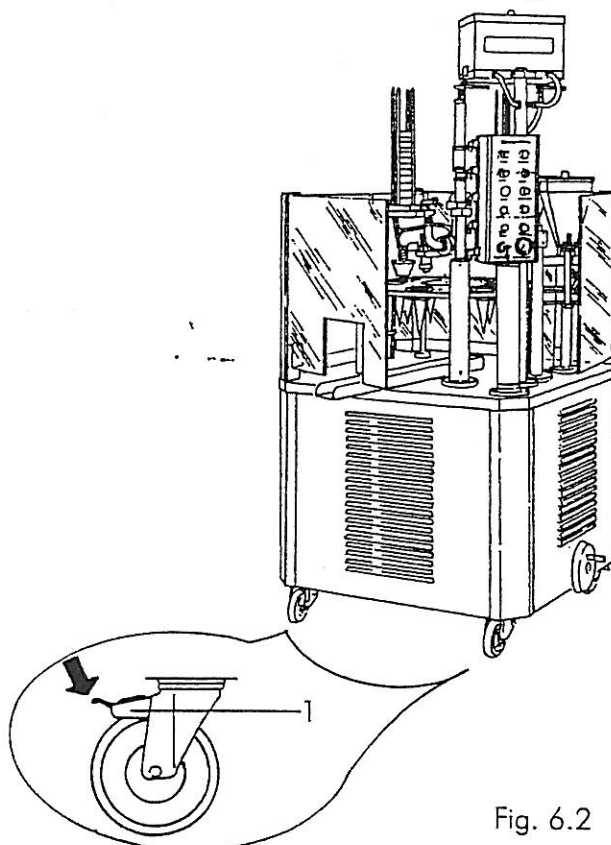

Fig. 6.2
The machine is fitted with four wheels, two of which have a brake 1 fig. 6.2. These are specially designed to facilitate movement on the floor.
- Once positioned, press the brake for the two wheels 1 fig. 6.2.